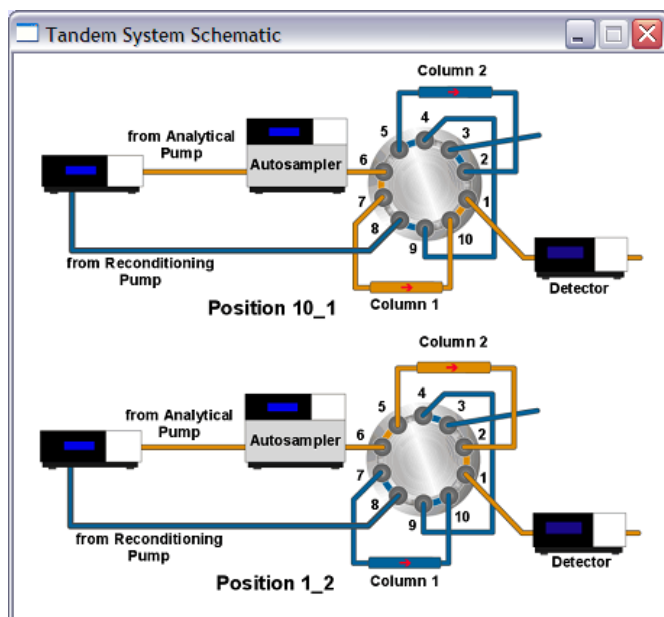

FIGURE 5-6: Program wizard – schematic overview of the fluidic connections.
3. After selecting **Program for x2 Tandem Operation** click **Next**. The Tandem System Schematic will appear (FIGURE 5-6) to assist you further in making the program. Set the autosampler and column compartment temperature parameters in the following wizard screens (not shown here).